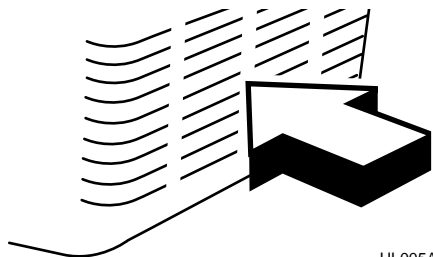

Figure 2
4. Position the unit to allow free air flow through the front grill (see Figure 2).